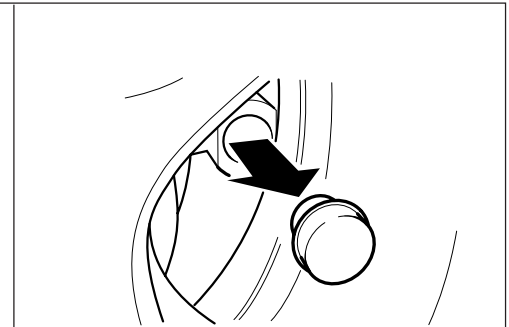

Fig. 2
- Unscrew the plastic cap from the receiver and store in the tool kit box. (When Al-Ko Secure is not in use, always screw the plastic cap in place). (Fig. 2)
- b) Attach the clip directly to the designated point (Fig. 2). This alternative must be specifically permitted by the trailer manufacturer since the clip may not be sufficiently strong for use in this way.